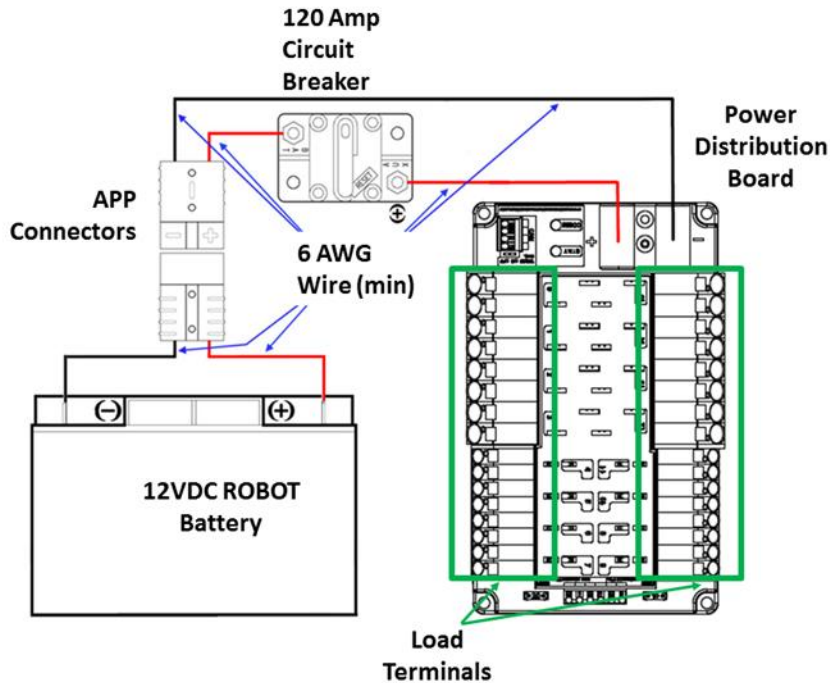

Figure 9-10 Electrical connection diagram
- R40.** The one (1) ROBOT battery, a single pair of Anderson Power Products (or APP) 2-pole SB type connectors, the one (1) main 120-amp (120A) surface mount circuit breaker (Cooper Bussman P/N: CB185-120, CB185F-120, CB285-120), and the one (1) CTR Electronics Power Distribution Panel (PDP, P/N: am-2856, 217-4244, 14-806880) shall be connected with 6 AWG (7 SWG or 16 mm²) copper wire or larger, with no additional devices or modifications, as shown in Figure 9-10.
- R41.** All circuits, with the exceptions of those listed in R46 and R48, must connect to, and have power sourced solely by, a single protected 12VDC WAGO connector pair (i.e. the Load Terminals, as shown in Figure 9-10) of the one (1) CTR Electronics Power Distribution Panel, not the M6 cap screws.